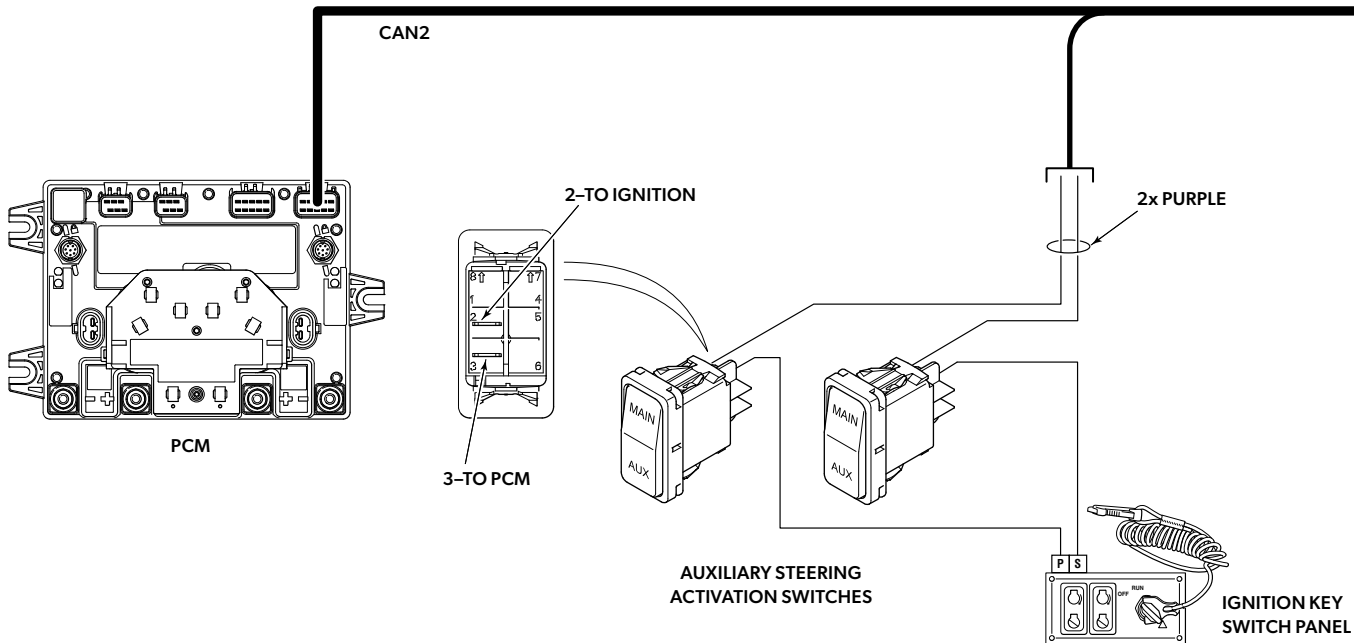

Figure 3.
2. Wire the switches in the Optimus EPS ignition sensing circuit as shown in figure 3. Use a sealed, heat-shrink quick disconnect terminal, such as Molex Perma-Seal P/N 0191640012, for connection to the switch.